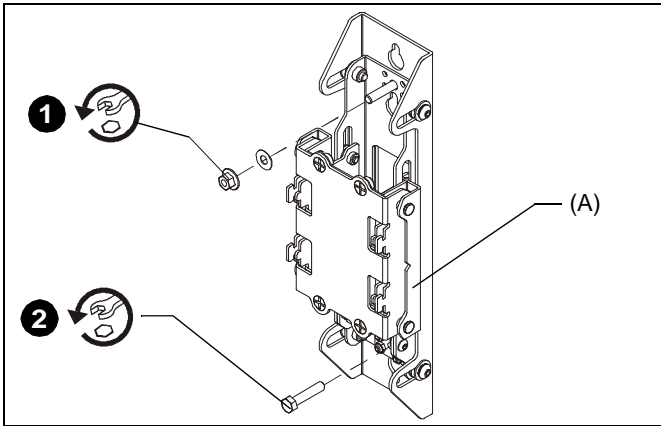

Figure 1
1. Remove flanged nut and washer from top of wall upright. (A) (See Figure 1)